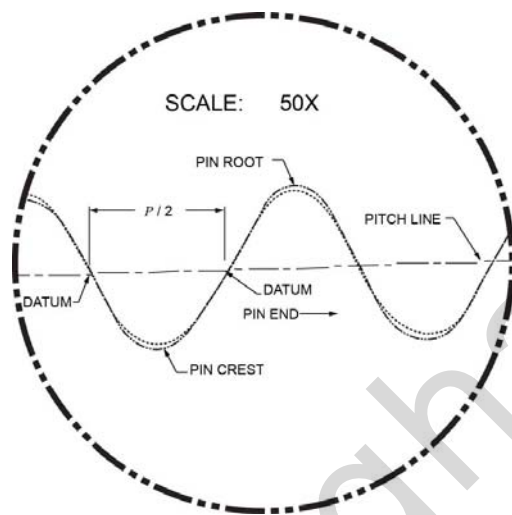

Figure 45 – External Thread Form Overlays for 8 Round Threads
5.6.4 points out: "Angular, as well as linear assessments of the defects shall be determined by comparing the thread profile image with that of a toleranced thread overlay (Figures 45 and 46) or by direct measurement."